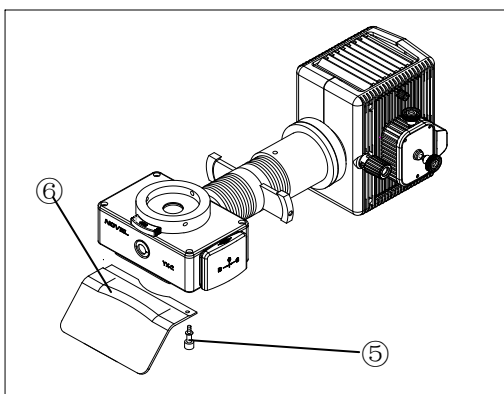

Fig.4
2.3 Mounting Protection Barrier (Fig.4)